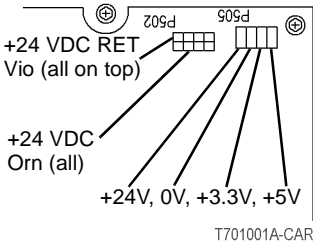

Figure 1 P502, P505 on +24V LVPS
- Disconnect P502 on +24V LVPS (Figure 1).
Connect the black meter lead to ground (-). Measure DC voltage at P/J505 on the +24V LVPS (Figure 1). **Voltages are measured as shown (Figure 1).**
Ensure P/J502 is still disconnected on the +24V LVPS. Measure the DC voltage at P/J502 on the +24V LVPS (Figure 1). **Voltages are measured as shown.**
Connect P/J502 on the +24V LVPS. Measure the DC voltage at P/J502 on the +24V LVPS (Figure 1). **Voltages are measured as shown.**